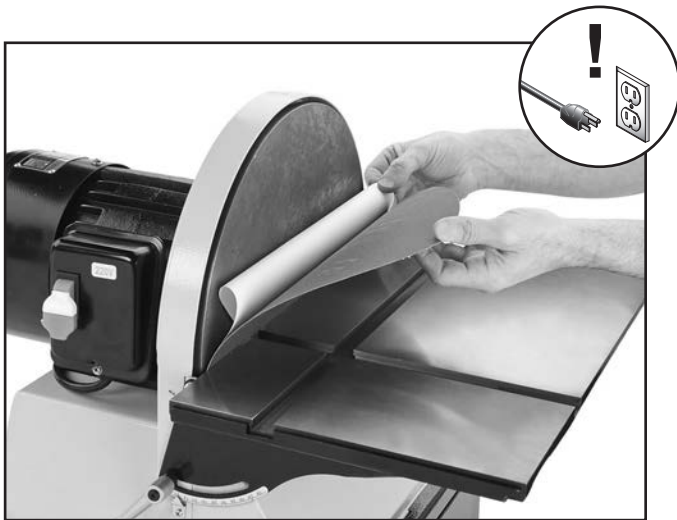

Figure 13. Example of installing PSA sanding disc.
4. Slip the half with the protective layer between the disc and the table edge (see **Figure 13** below).